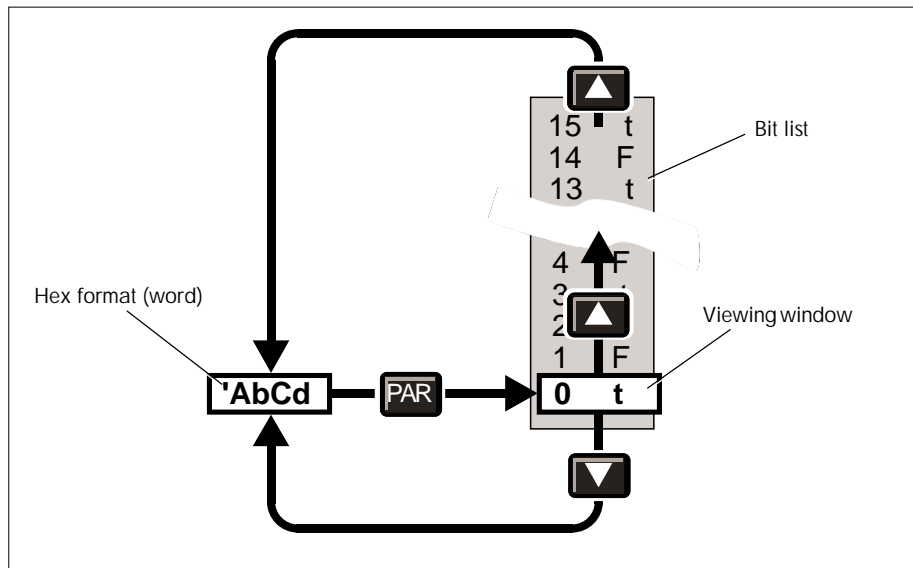

Figure 3-11 Accessing & scrolling bit values in a word
- 3 Hold down or repeatedly press the ▲ button to autoscroll or step up the bit-list until the required bit is displayed. ▼ scrolls *down* the list again. Note that bit-list scrolling is not cyclic. Scrolling beyond either bit 0 or the highest bit (7 or 15) reverts the display to the hexadecimal byte or word format. Figure 3-11 illustrates accessing and scrolling through the 16 bits in a word.